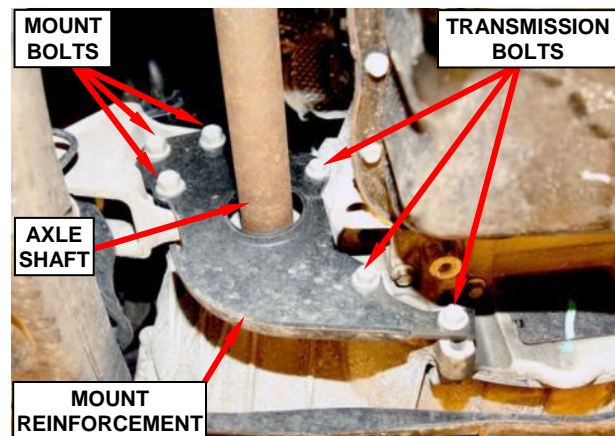

Figure 38 – Mount Reinforcement
- a. Remove the bolts securing the transmission mount reinforcement (Figure 38).
- b. Remove the transmission mount reinforcement (Figure 38).